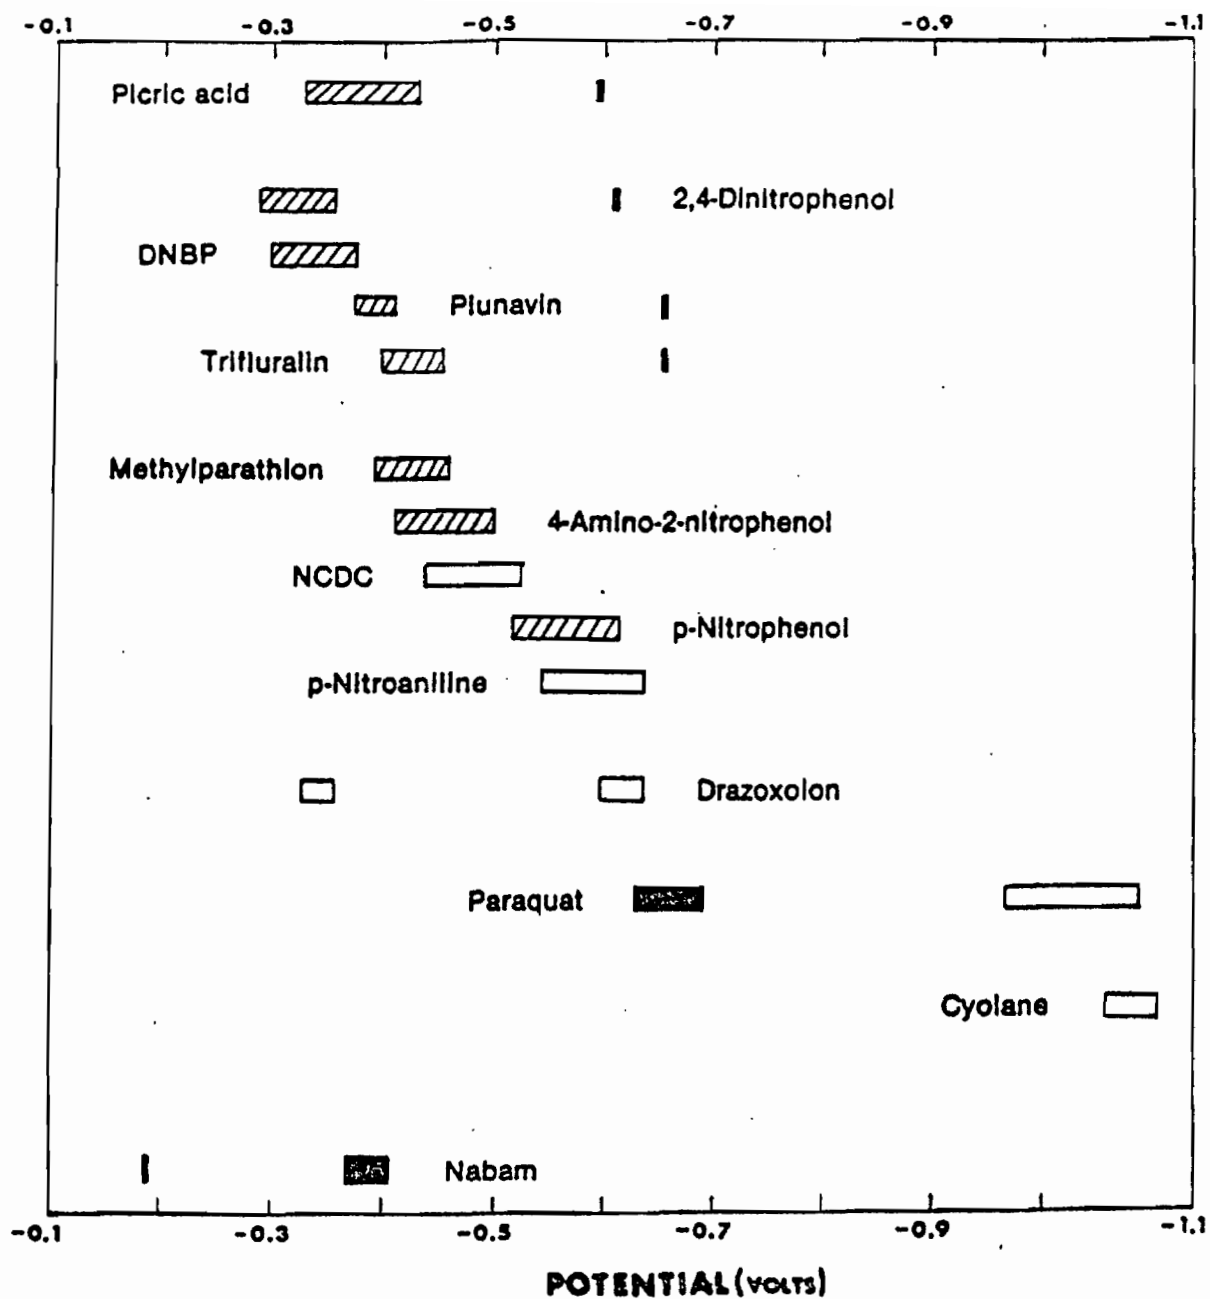

Figure 9 Reductive Cyclic Voltammetric Data for Selected Compounds of Environmental Interest.
- Figure 9 Reductive Cyclic Voltammetric Data for Selected Compounds of Environmental Interest.